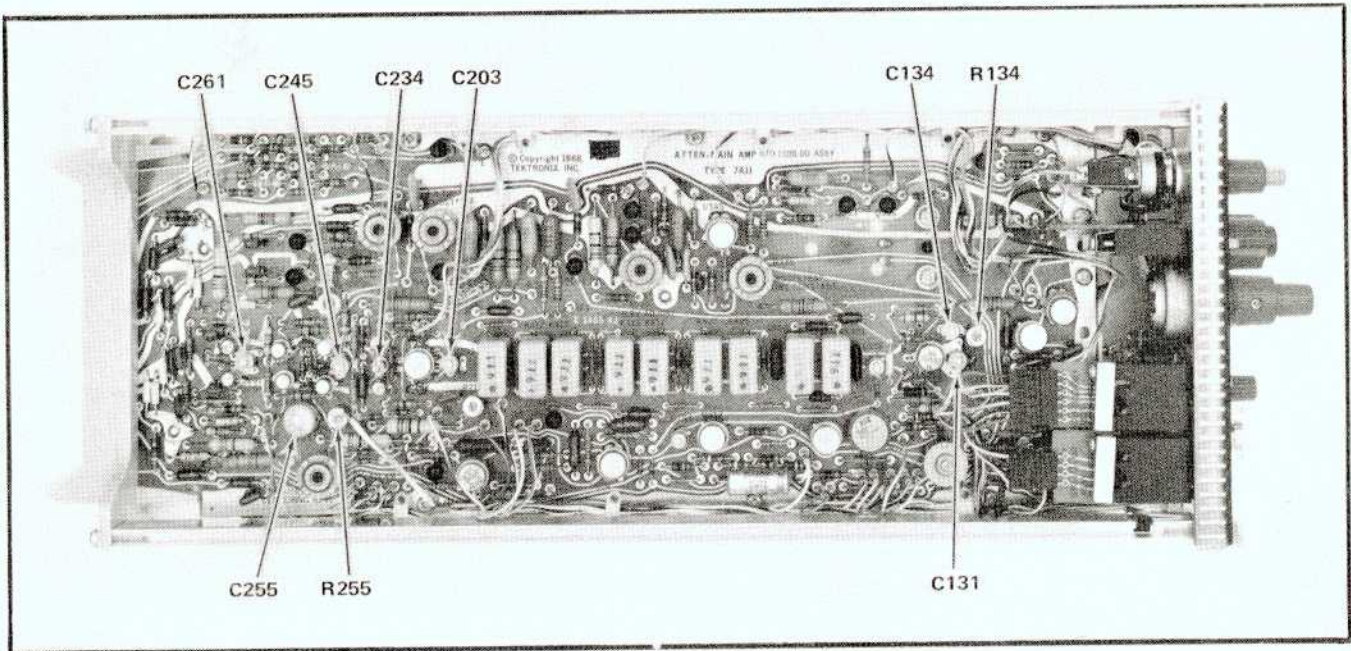

Fig. 5-12. Adjustment locations for step 12.
(1) Within the Plug-In Extender (item 10), disconnect the bottom connector on the left and on the right side. Connect the left and right side male connector to the Channel A and B inputs of the 3S1, respectively, using 2 ns cables (item 17) and GR-to-BNC female adapters (item 19).
(2) Connect the 7A11 to the Extender and install the Extender in the Oscilloscope vertical plug-in compartment.
(3) Connect the 7A11 Probe through the 50  $\Omega$  Termination/Adapter and a 5X GR Attenuator to the + Output Connector of the Type 106 Square Wave Generator.
(4) Select FULL Bandwidth at the 7A11.
(5) Switch the 3S1 Channel A and Channel B mVolts/Div controls to 50 mV.
(6) Adjust the Type 106 Square Wave Generator + Transition Amplitude as necessary to obtain a 5 division display on the Sampling System CRT. (7A11 at 10 mV/Div.) Use the 7A11 POSITION control to center the display.
(7) Perform the adjustments listed in Table 5-6, obtaining an optimum square top-left corner and flat top on the waveform. Adjustment locations are shown in Fig. 5-12.
(15) RE-ADJUST—C255 and R255 (Fig. 5-12) as necessary to make the 7A11 display as nearly like the Calibration Fixture display as possible. Do not change any other transient response adjustment settings. (Re-check the step function through the Sampling System if re-adjustment is done.)